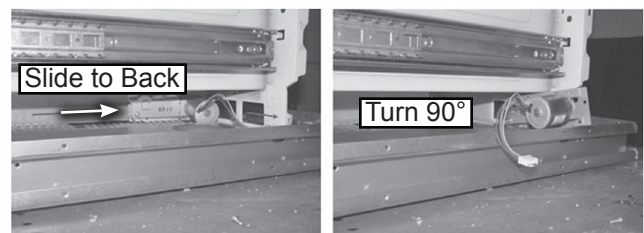

Figure 3
9. Disengage (pull) Auto Drawer Gear from rack gear and slide to the right (toward the rear), then turn motor 90° and slip out along rear of drawer, see figure 3.